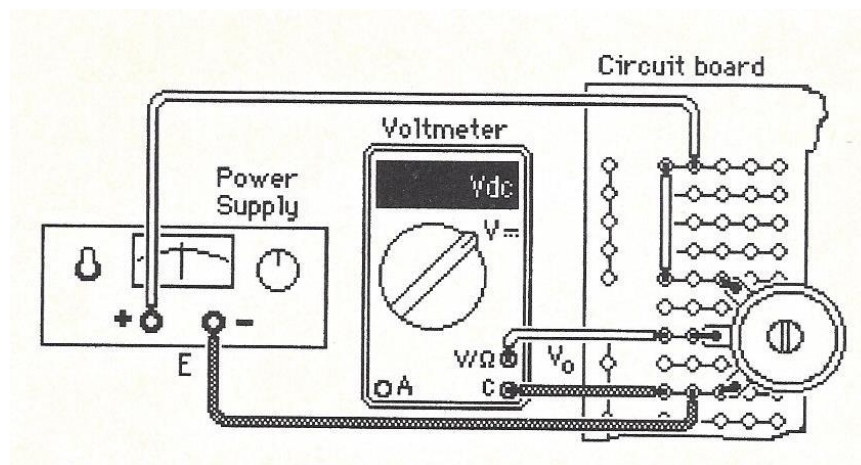

Figure 5
5. Connect the potentiometer to the Power supply as illustrated in Figure 5. Set $E = 9$ V and connect the voltmeter to monitor V_o .